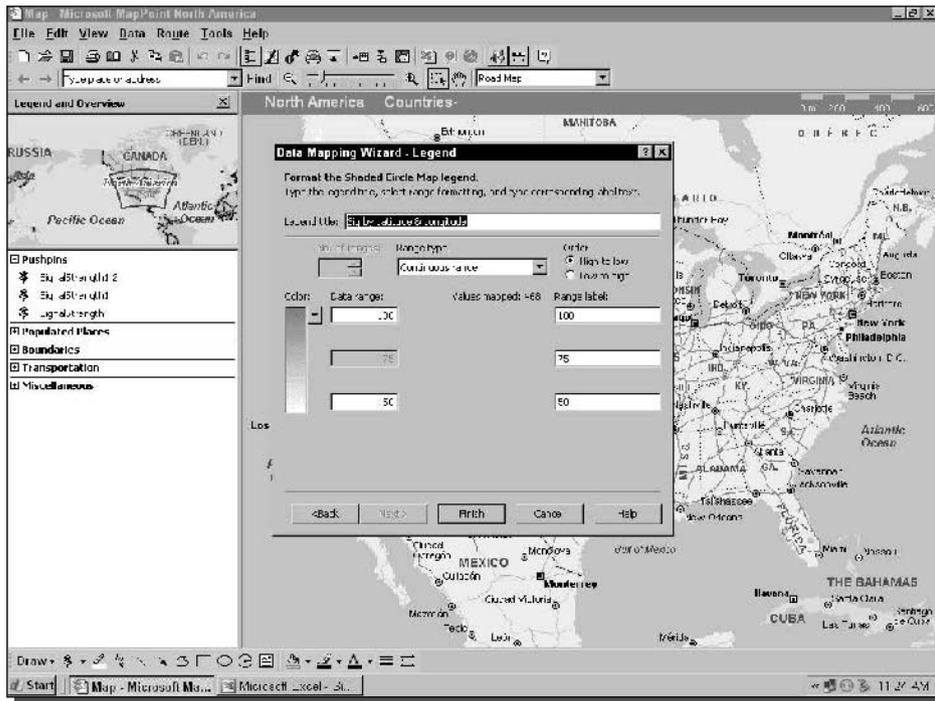

FIGURE 7-18: The shaded circle wizard.
19. Now comes the fun part. Adjust the data range numbers (see Figure 7-18) to choose a range that will give some meaning to the map. Something like 100 at the top and 50 at the bottom works well for plotting signal strength.